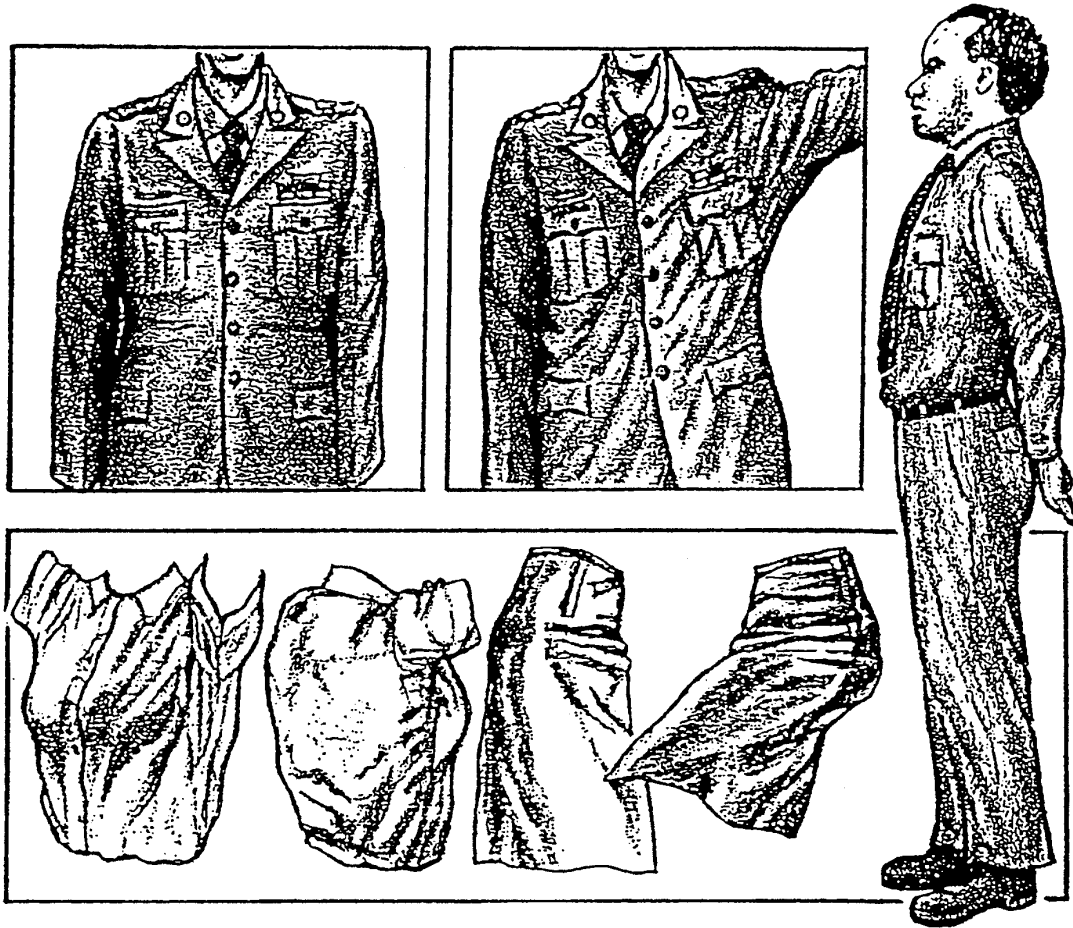

Figure K-20. Examples of folds.
(1) The shape of the figure, the action of the figure, and the cut of the garment control the folds in clothing.
(2) The crushed and hub are two types of folds. A crushed fold is found where there is more fabric than space for it, such as the bent inner elbow. A hub fold radiates from a point of support such as the shoulders or hips. (See Figure K-20.)